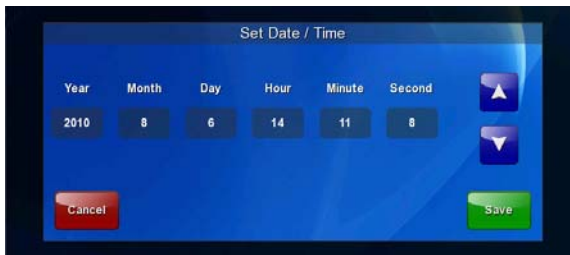

FIG. 59 Set Date/Time popup window
1. From the *Date/Time* page, press the **Set Time** button to open the *Set Date/Time* popup window (FIG. 59).